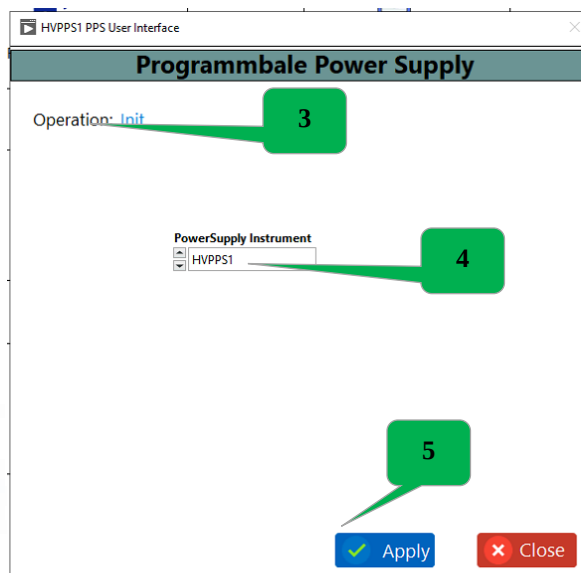

Figure 60: HV PPS Initialize
- 3) Click the PPS Init and Refer Fig 60.